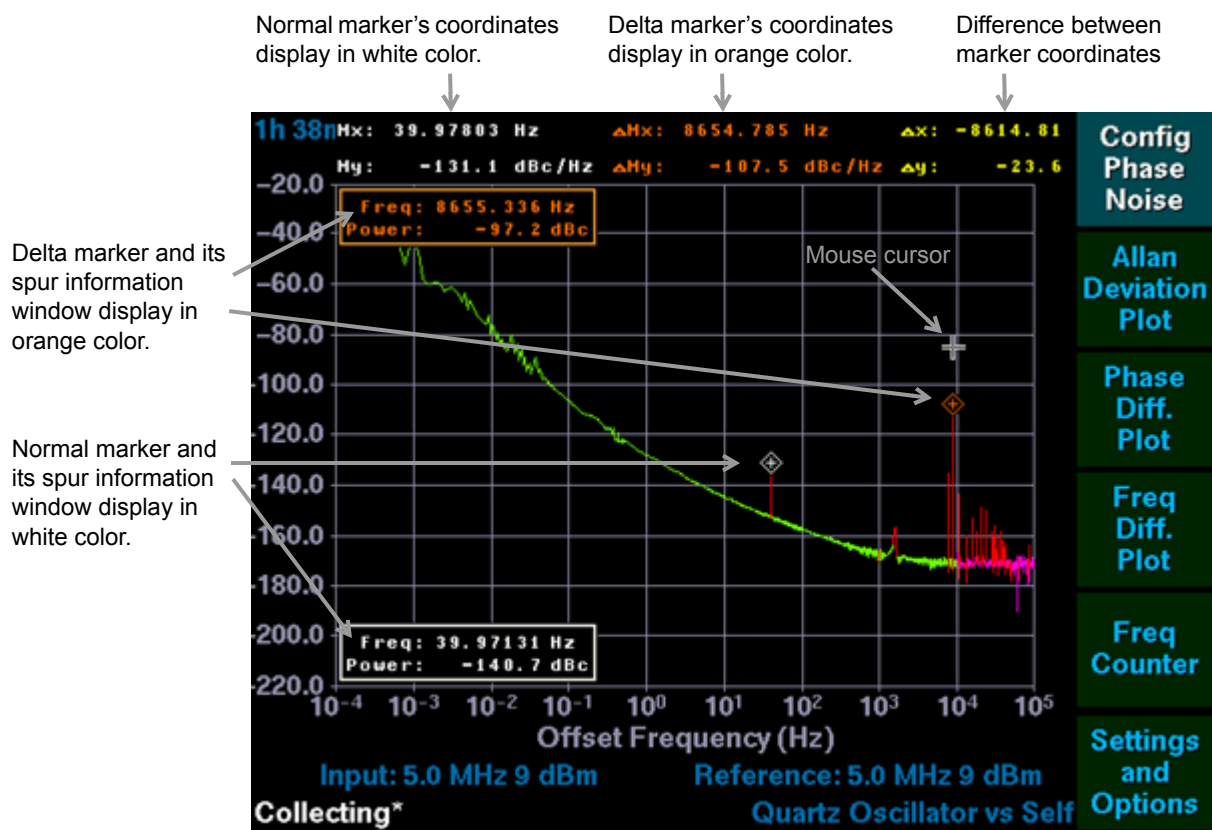

Figure 10: Example phase noise data with data markers
- The mouse cursor changes to a cross hair as shown above the delta marker in Figure 10.
- Tip: Due to limitations imposed by screen resolution, multiple data points are plotted at the same x-coordinate. Mouse-based marker placement also considers the y-coordinate when selecting the best matched measurement. The mouse was used to place the delta marker in Figure 10. Note that the cross hair mouse cursor is above the actual measurement traced by the marker. This ensures that the marker is placed on the highest data point at that offset frequency. If the mouse cursor was at the same x coordinate but below the data set, the lowest point at that x coordinate would have been selected.